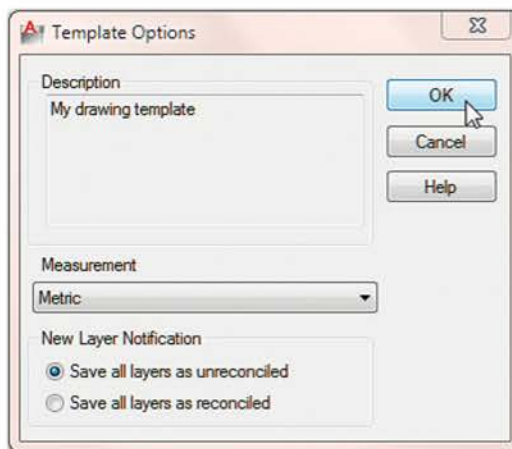

Fig. 5.21 The Template Options dialog
4. The **Template Option** dialog appears. Make *entries* as suggested in Fig. 5.21, making sure that **Metric** is chosen from the popup list.